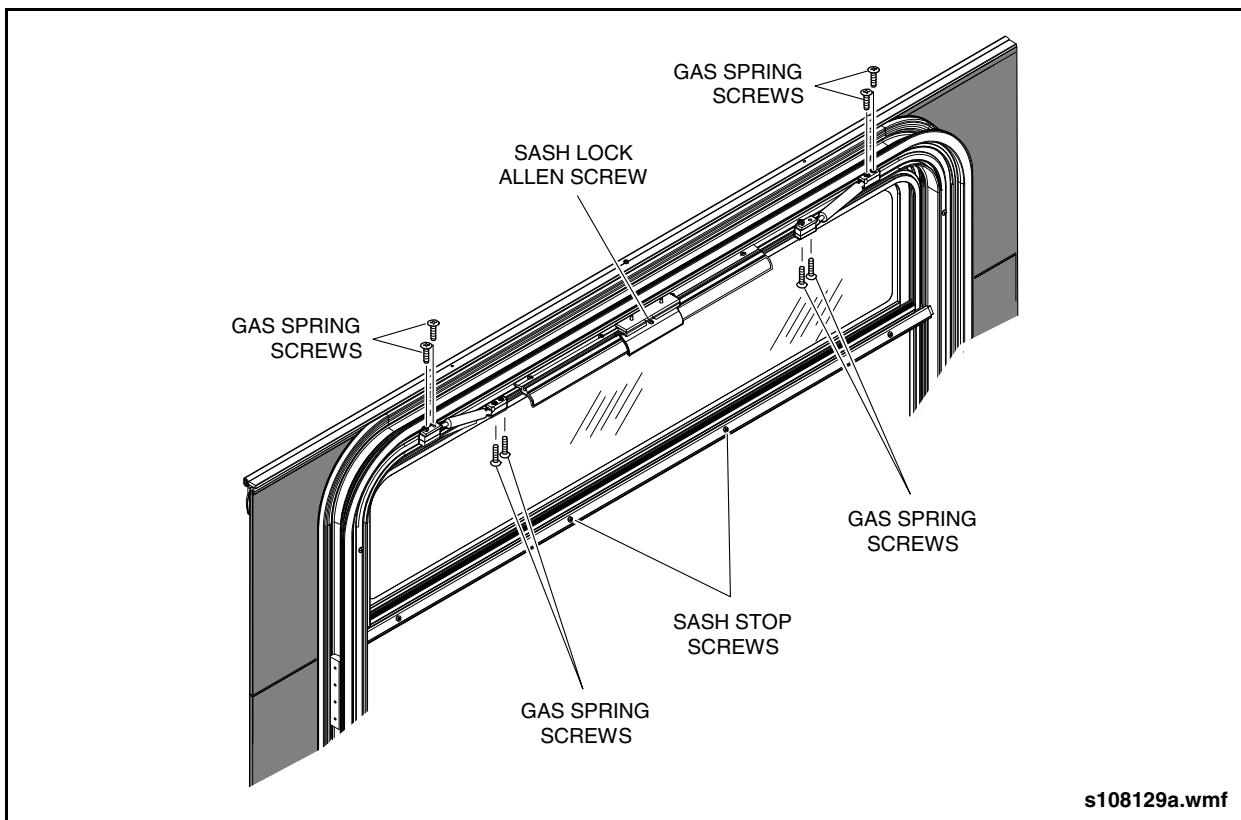

Fig. 14-11: Window Sash Removal
2. Loosen the (4) 8 - 32 x 1" long flat head screws enough to remove the gas springs from the retainers. See "Fig. 14-11: Window Sash Removal" on page 13.
3. Close the sash again, and remove the (4) 8 - 32 x 3/8" pan head screws from the sash stop.